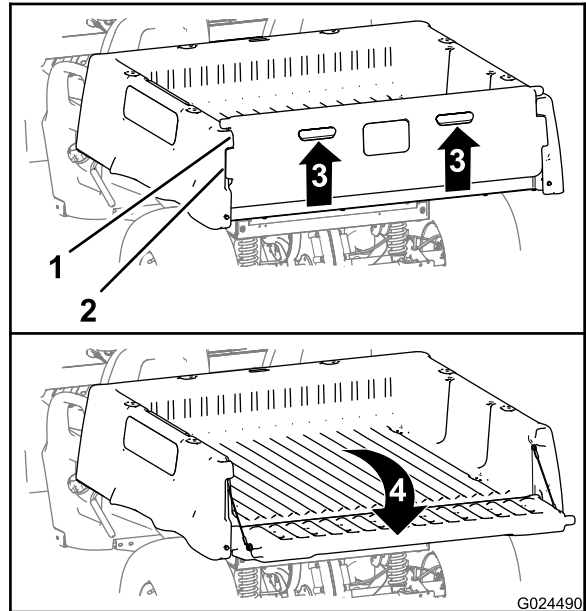

Figure 15
2. Lift up the finger pulls at the back panel of the tailgate (Figure 15).
3. Align the lock flanges of the tailgate with the openings between the tailgate flanges of the cargo bed (Figure 15).
4. Rotate the tailgate rearward and down (Figure 15).
6. Rotate the tailgate up and forward until the lock flanges of the tailgate are flush with the tailgate pocket in the cargo bed (Figure 15).
7. Lower the tailgate until it is seated in the back of the cargo bed (Figure 15).